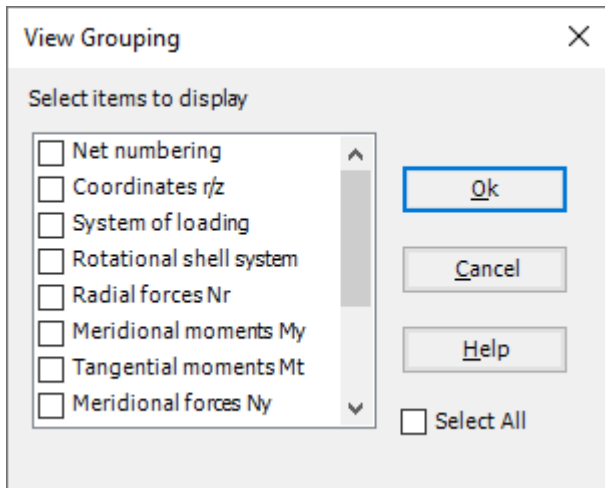

Figure 12.34 "View Grouping" check group box
- From "Options" menu in the "Graphic" tab, choose "View Grouping" command. The "View Grouping" check group box in Figure 12.34 appears